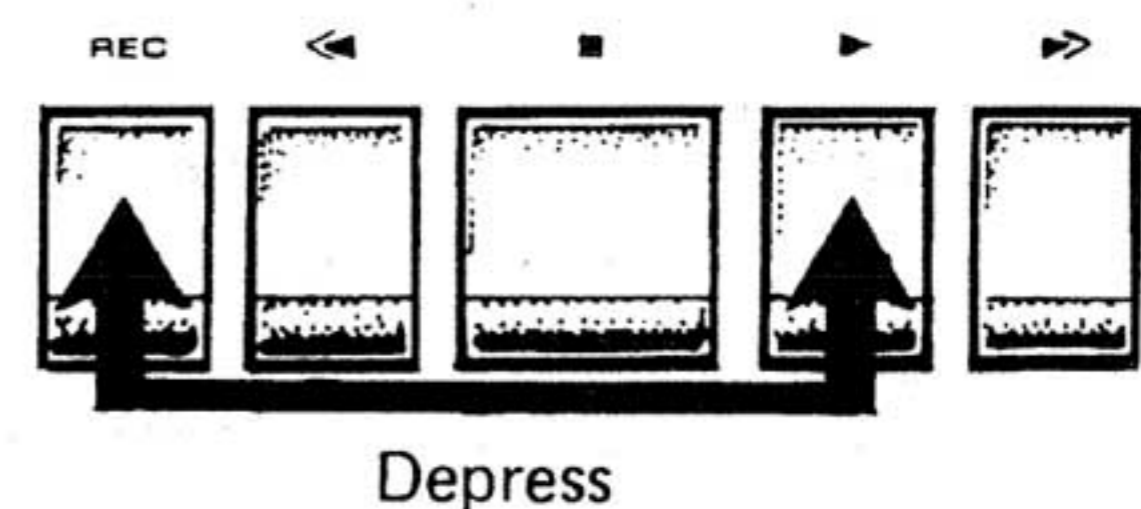

Fig. 37
6. Simultaneously depress REC and ► play buttons (Fig. 37). Recording by microphones can then be performed. Monitoring in this case should be performed with headphones to avoid acoustic feedback which may occur if speakers are used for monitoring.